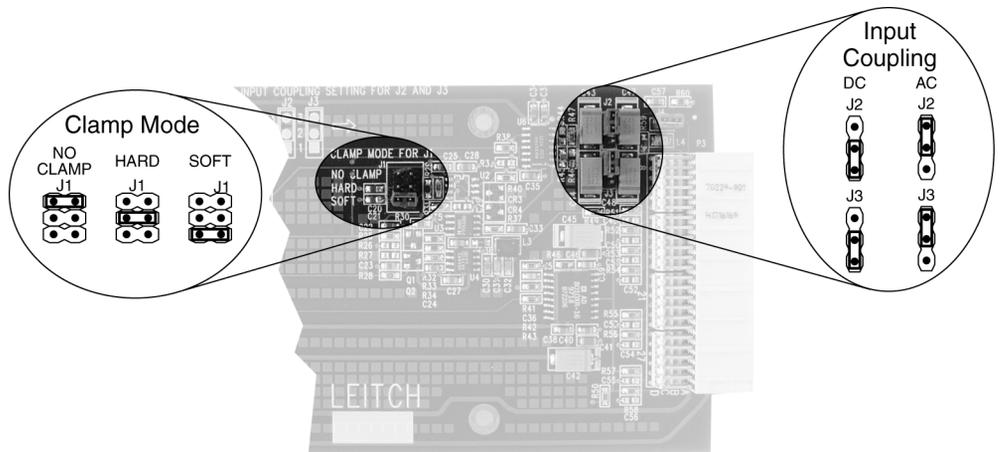

Figure 8-3. VPD-6830-CLP Configuration
1. Set the input coupling for either AC or DC coupling using jumpers **J2** and **J3**. *See* Figure 8-3 on page 71 for jumper locations.
2. Set the **Clamping** mode on jumper **J1** to either **Soft**, **Hard** or **No Clamp**. *See* Figure 8-3 on page 71 for jumper location.
6. Adjust the **Hard** clip level using the **R4** multi-turn potentiometer located on the VPD-6830-CLP submodule. *See* Figure 8-3 “VPD-6830-CLP Configuration” on page 71.